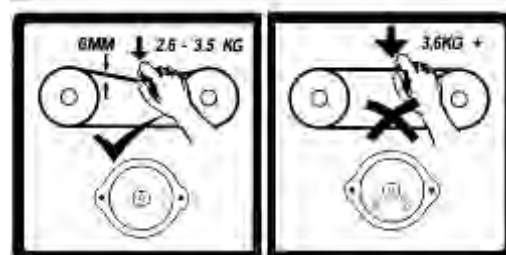

Figure 14.2
- 14.7.3 Check the tension by applying a force of between 2.6kg and 3.5kg at right angles to the belts in the centre of the belt and between the two pulleys, see figure 14.2. If the deflection is greater than 6mm increase the belt tension as follows;